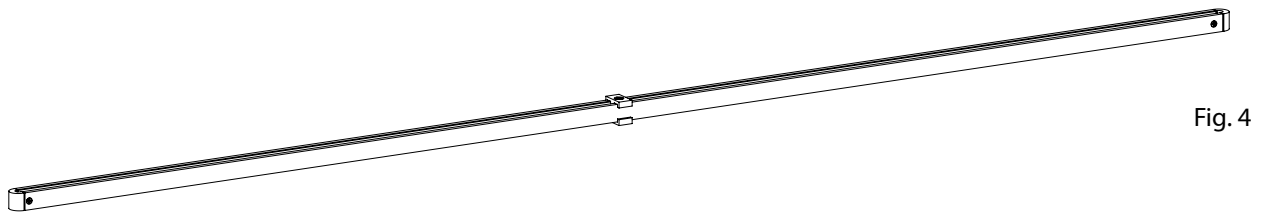

Fig. 4
1. The Linear Power Bar comes with a spacer clip pre-installed at the center of the Power Bar. (Fig. 4)